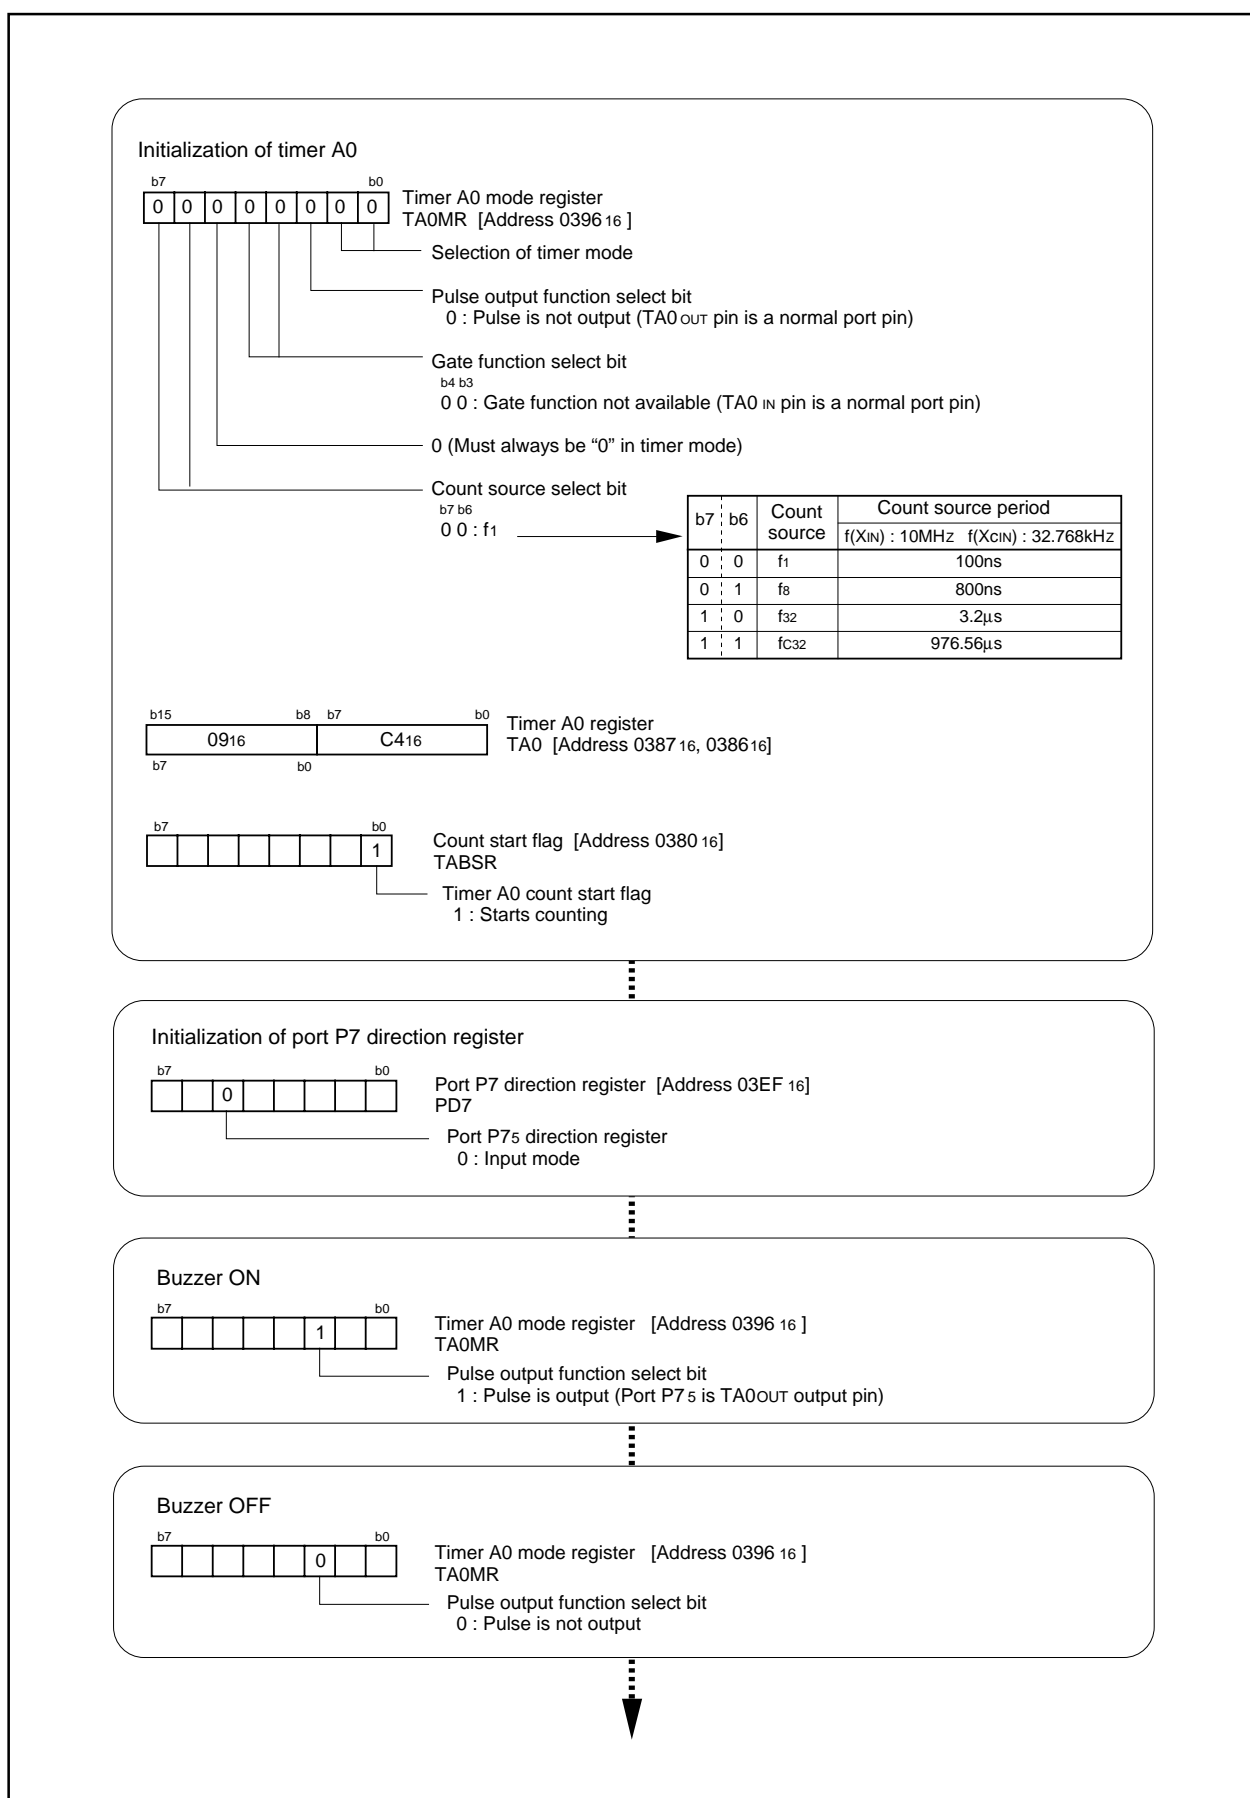

Figure 3.4.2. Set-up procedure of buzzer output
**Overview** The timer mode is used to make the buzzer ring. Figure 3.4.1 shows the operation timing, and Figure 3.4.2 shows the set-up procedure.